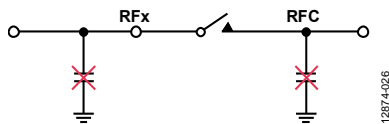

Figure 46. Avoid Large Capacitive Terminations Directly Connected to the Switch
- Avoid connecting large capacitive terminations directly to the switch. A shunt capacitor can store a charge that can potentially give rise to hot switching events when the switch opens or closes, affecting the lifetime of the switch. Figure 46 shows where to avoid large capacitive terminations.